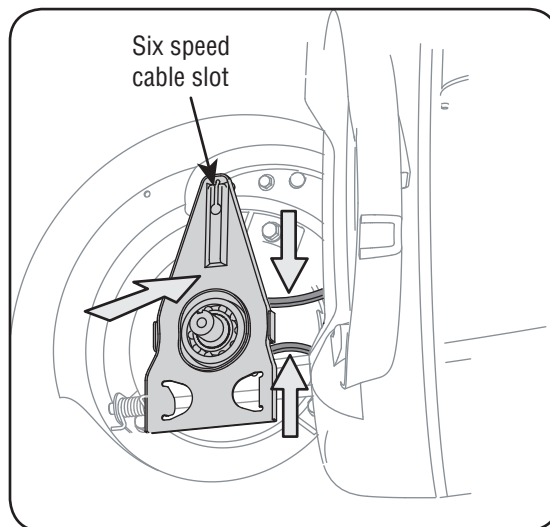

Figure 17
12. Squeeze the belt together and push belt forward. Press the control arm inward towards the deck and remove the six speed cable from the slot. See Figure 17.